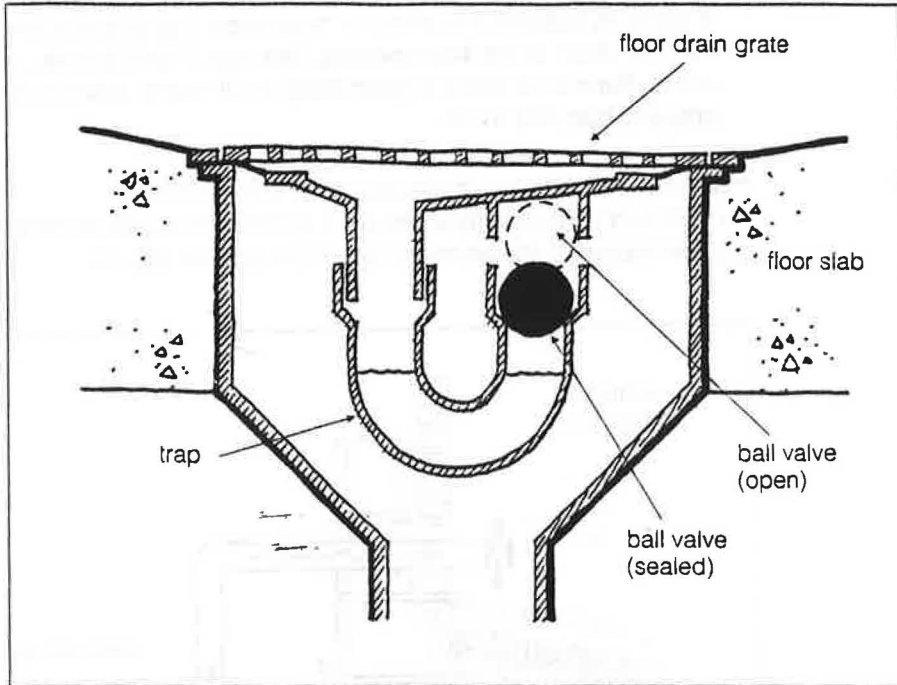

Fig. 7. Self-sealing floor drain (gas trap).
- If the weeping tile connects to the floor drain above the trap, then the trap is being bypassed and offers no protection. Install a special gas trap in the floor drain at the floor opening. See figs. 7 and 8 for how a gas trap works. Such a device is a good idea for all drains, whether they are properly trapped or not.